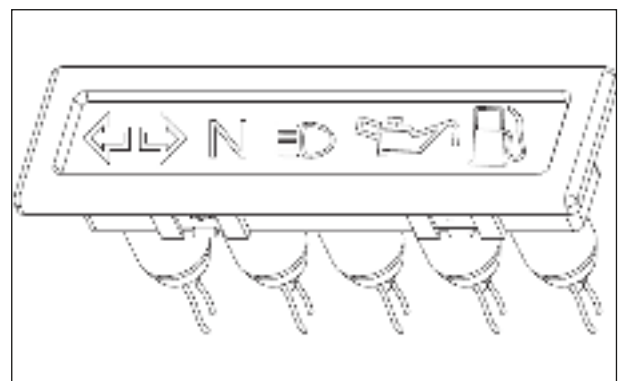

Fig. 6.56
- The following bulbs can be replaced by removing from tell tale lamp cluster.(Fig. 6.56)